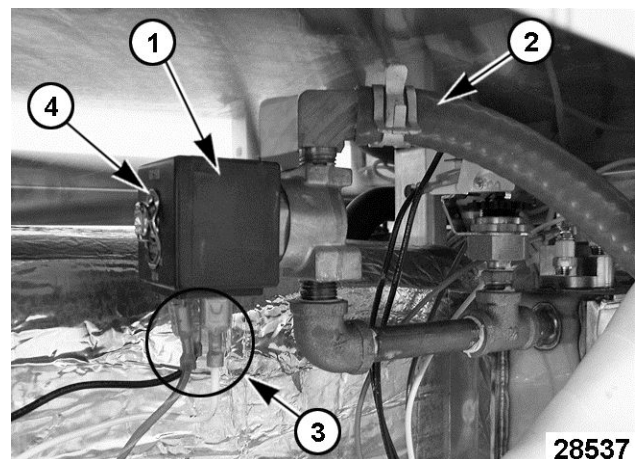

Fig. 82
3. Locate vacuum relief solenoid [1] Fig. 82 in the plumbing line that extends from water level probe housing.
4. Disconnect hose [2] Fig. 82 from solenoid valve.
5. Disconnect electrical wiring [3] Fig. 82 from solenoid coil.
6. Remove retaining clip [4] Fig. 82 securing coil to valve body then remove coil and spring washer.